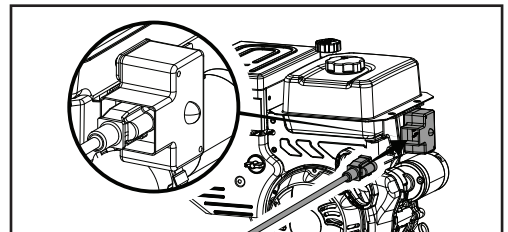

Figure 12D
7. Alternatively for electric start, plug in the supplied electrical cord into the starter. Press the electric start button and make sure that the main supply voltage is 120 V~ 60 Hz (Fig. 12D).